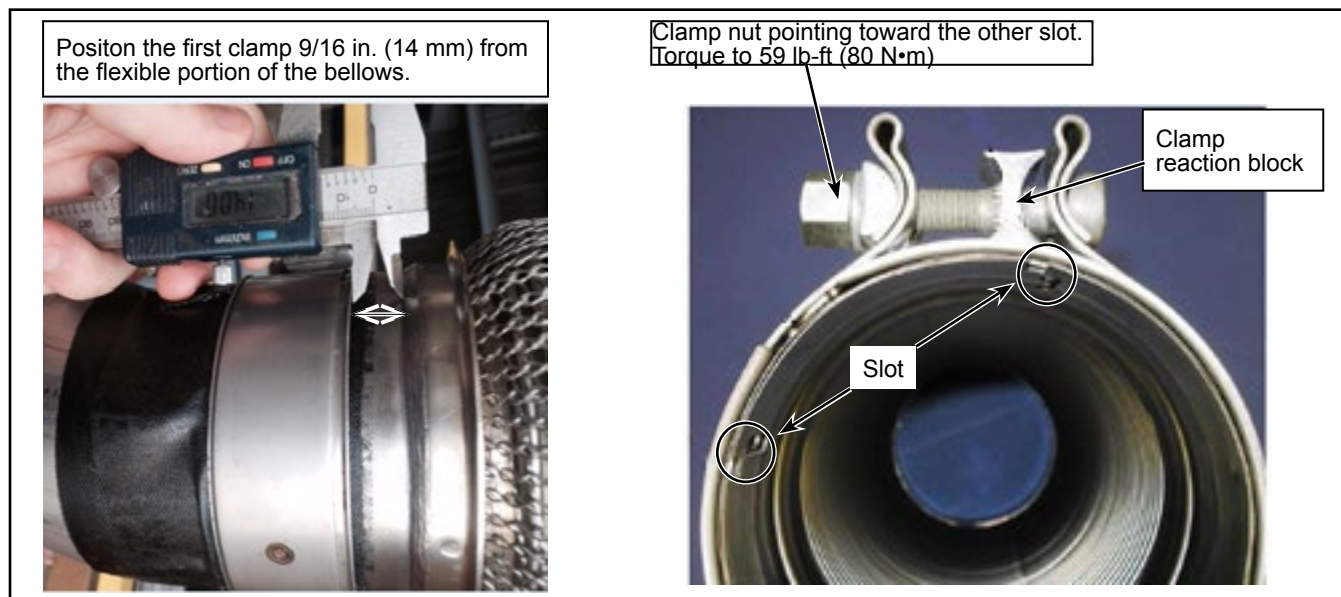

Figure 4 - Positioning of the First Retaining Clamp of the Flexible Bellows
- 1.10. Position the first clamp 9/16 in. (14 mm) from the flexible portion of the bellows. There should be at least 1/8 in. (3 mm) of tape above the clamp. Align clamp reaction block on top of one of the flexible bellow slots. The nut of the clamp should point toward the other slot of the flexible bellows. See Figure 4.
- 1.11. Tighten and torque the clamp. See Figure 4.